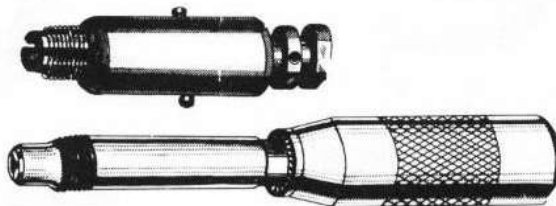

Figure 61
- (l) Use the Expanding and Staking Tool P/N 64593 (Figure 61) to stake the new installed 0.010 in. oversized Heli-Coil® insert securely in the spark plug hole as follows: